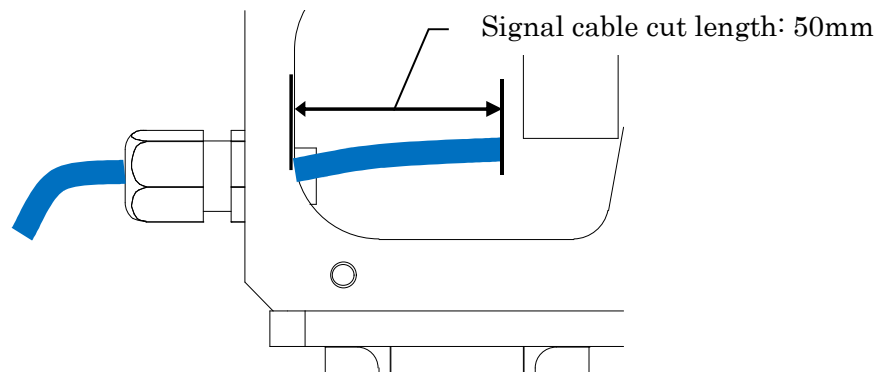

Fig. 12. Signal cable length arrangement
- (3) Let the signal cable through the cable gland and adjust the length with reference to the power supply cable. Then cut the cable 50mm from the housing. (Refer to Fig. 12.)